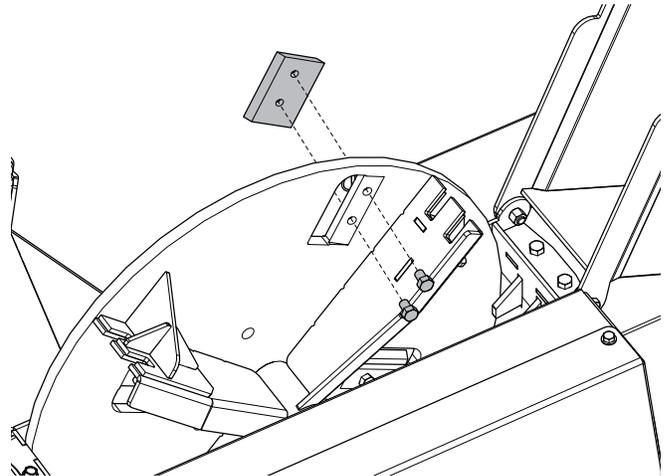

Figure 31 – Install a rotor knife
10. Put the rotor knife in the recess and install the rotor knife fasteners. See *Figure 31*.